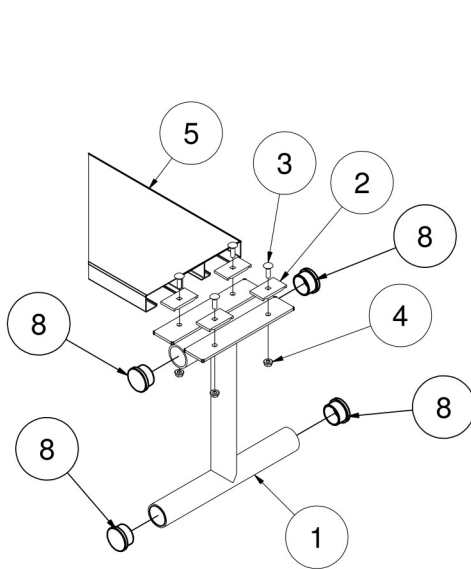
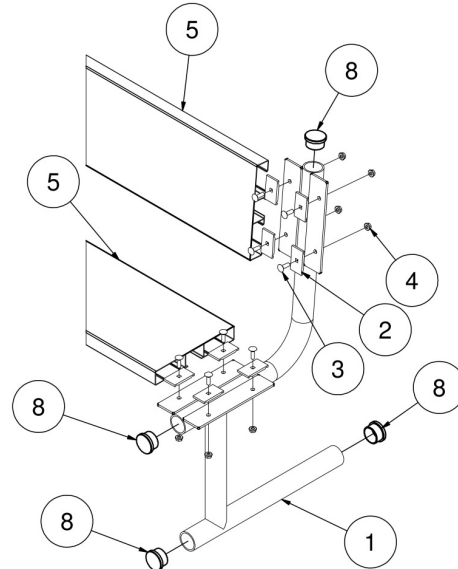

Figure 1
Figure 2
1. The Plastic Caps (Item 8) are pre-installed at the factory, but are shown for reference should they be required for replacement. Refer to Figure 1 for without back models and Figure 2 for with back models.
4. Install the seat back on with back models using the same method as mounting the seats. Refer to Figure 2.